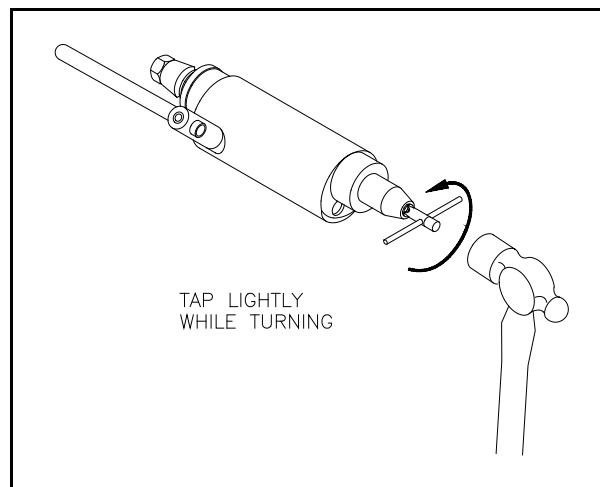

Figure 4.
6.4.3 Insert the collet wrench. Tap the end of the collet wrench **LIGHTLY** while turning the collet wrench counterclockwise. See Figure 4.